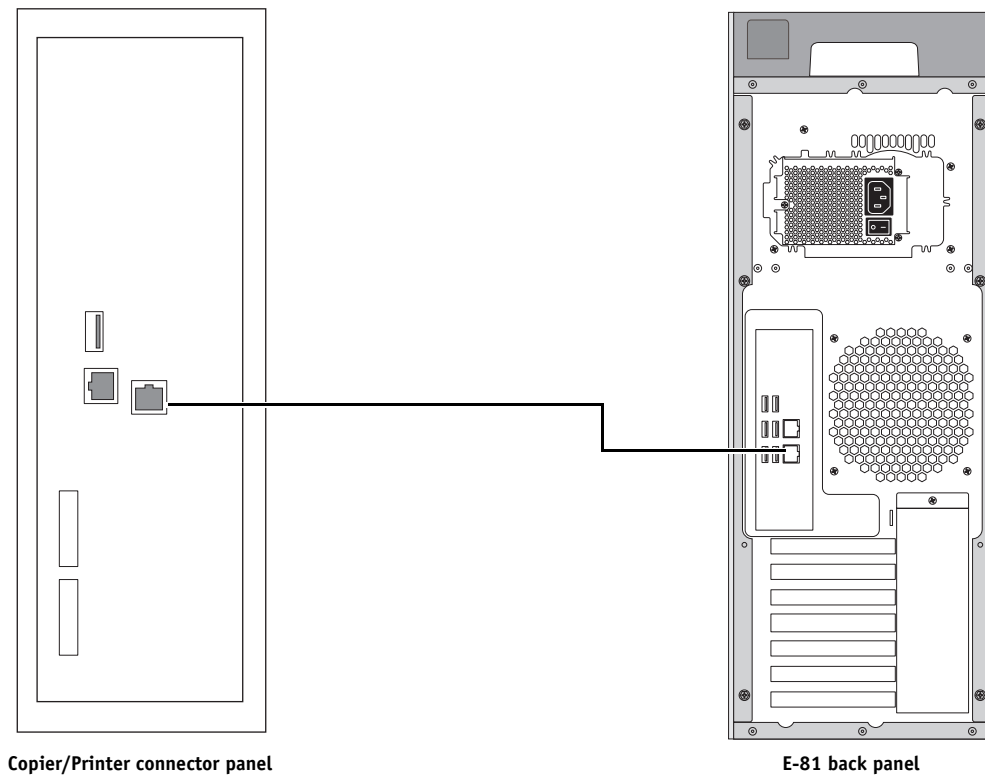

FIGURE 7: Copier/Printer and E-81 cable connection
4. Connect one end of the cable to the video interface port on the E-81 and the other end of the cable to the correct Ethernet port on the copier/printer as shown in Figure 7.